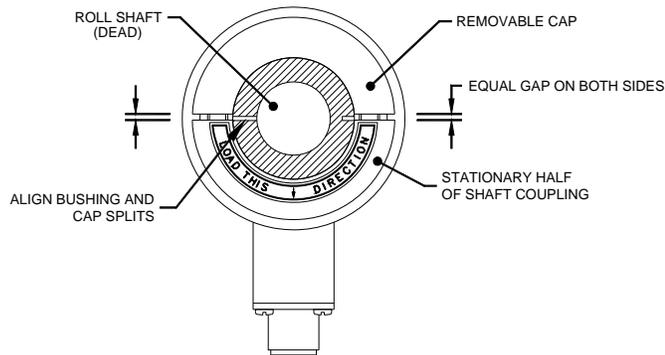

Figure 14 - Correct Shaft Coupling Installation
3. If you are using bushings, be sure that they are split on their circumference so that they readily yield to hold the roll shaft. Refer to Figure 14.
4. Remove the four (4) socket head cap screws and then remove the shaft coupling cap.
6. Install coupling bushings on the roll shaft (if being used) and place the roll onto the stationary portion of the shaft coupling. To be sure that the clamping force is properly transmitted to the roll shaft align the bushings so that the split coincides with the split of the shaft coupling. Refer to Figure 14.
Tighten the shaft coupling cap. Be sure that the size of the gaps on each side of the roll shaft are approximately equal in width. Refer to Figure 14.